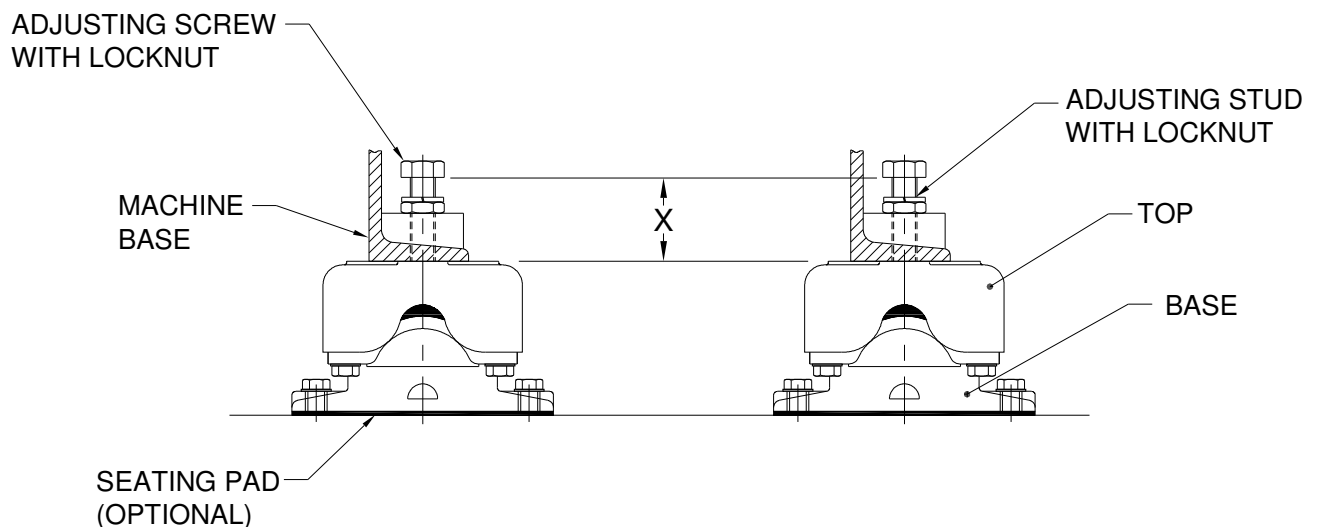

Figure 1
5. Isolator adjusting screws for type ODS, ODL should be set initially so that dimension 'X' is as given on our general arrangement drawing or as recommended. See figure 1. Movement of the machine and isolation of vibration vary with the setting of the adjusting screws. Increases in dimension 'X' normally result in increased movement of the machine and reduced transmission of vibration. Decreases in dimension 'X' have opposite effects.